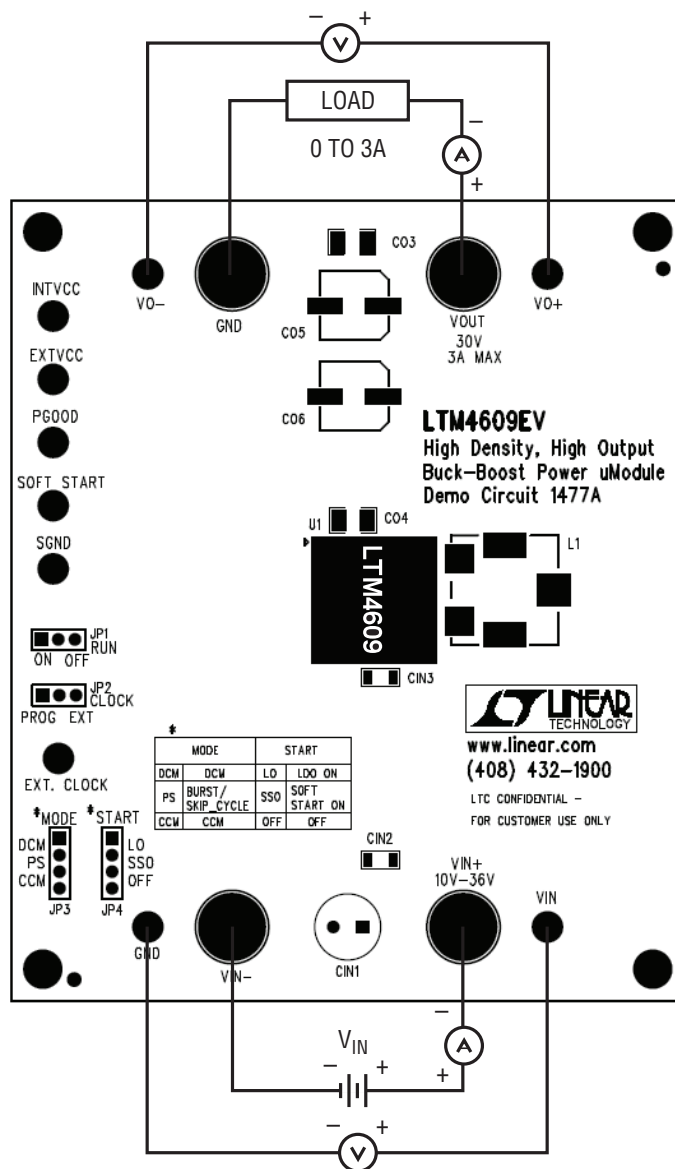

Figure 1. Test Setup of DC1477B
Demonstration circuit DC1477B is an easy way to evaluate the performance of the LTM4609EV. Please refer to Figure 1 for proper measurement equipment setup and follow the procedure below:
2. With the power supply off, connect the input power supply, load and meters as shown in Figure 1. Preset the load to 0A and  $V_{IN}$  supply between 10V to 36V.